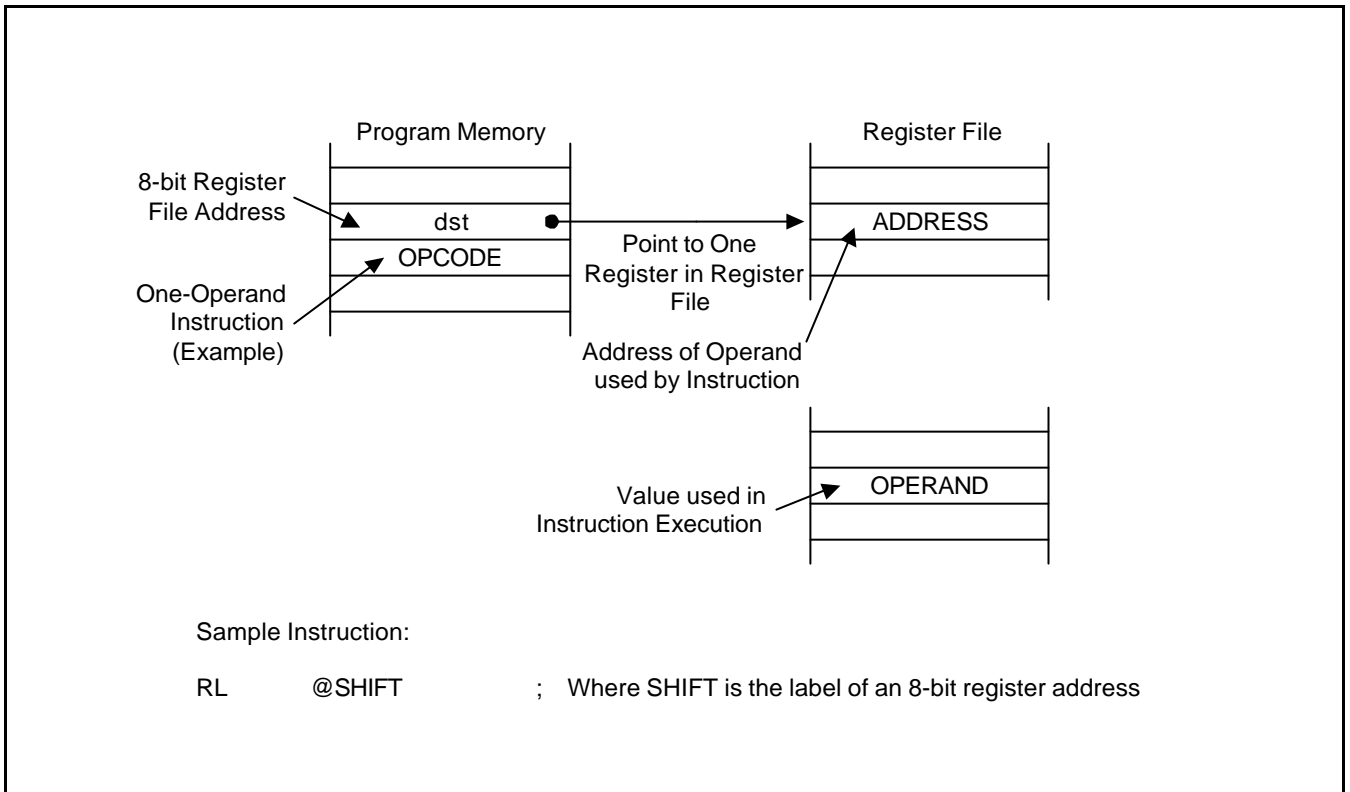

Figure 3-3. Indirect Register Addressing to Register File
In Indirect Register (IR) addressing mode, the content of the specified register or register pair is the address of the operand. Depending on the instruction used, the actual address may point to a register in the register file, program memory (ROM), or an external memory space (see Figures 3-3 through 3-6).